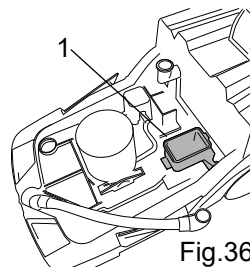

Fig. 36
- Clean the chamber of the valve (fig. 36, ref. 1), removing any encrustations, and rinse with clean water; wipe the seals of the cover with a soft cloth.